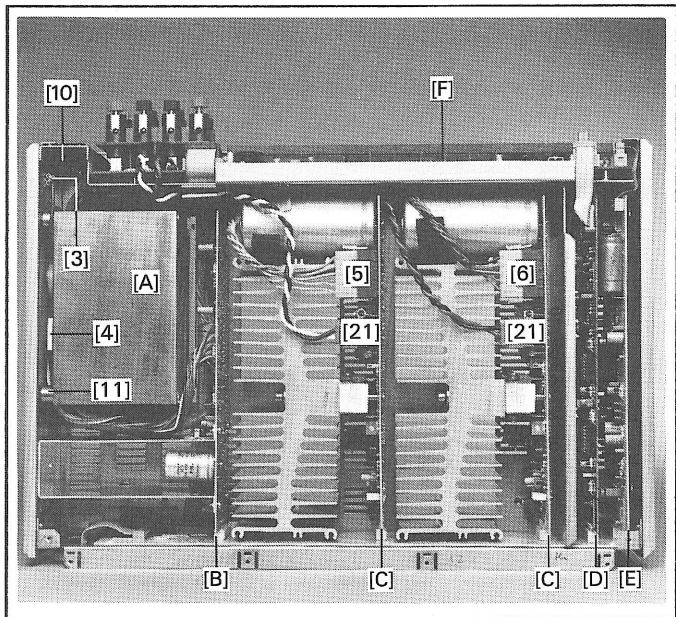

Fig.2.3
- Four tapped holes for the screws (19) have been provided on the transformer.
- Separate the three plug connections (16), (18), (20).
- Unplug and expose the two cables (21) to the output stages (Fig. 2.3).
- Unfasten the five mounting screws (22) of the circuit board.
- Unfasten the two screws (23) of the D-type connector on the bottom of the amplifier.